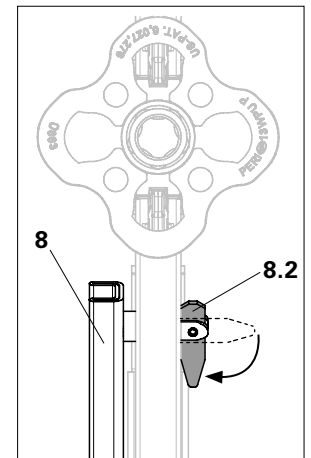

Fig. A11.01c
3. Turn gravity pin (8.2) to secure. (Fig. A11.01c)